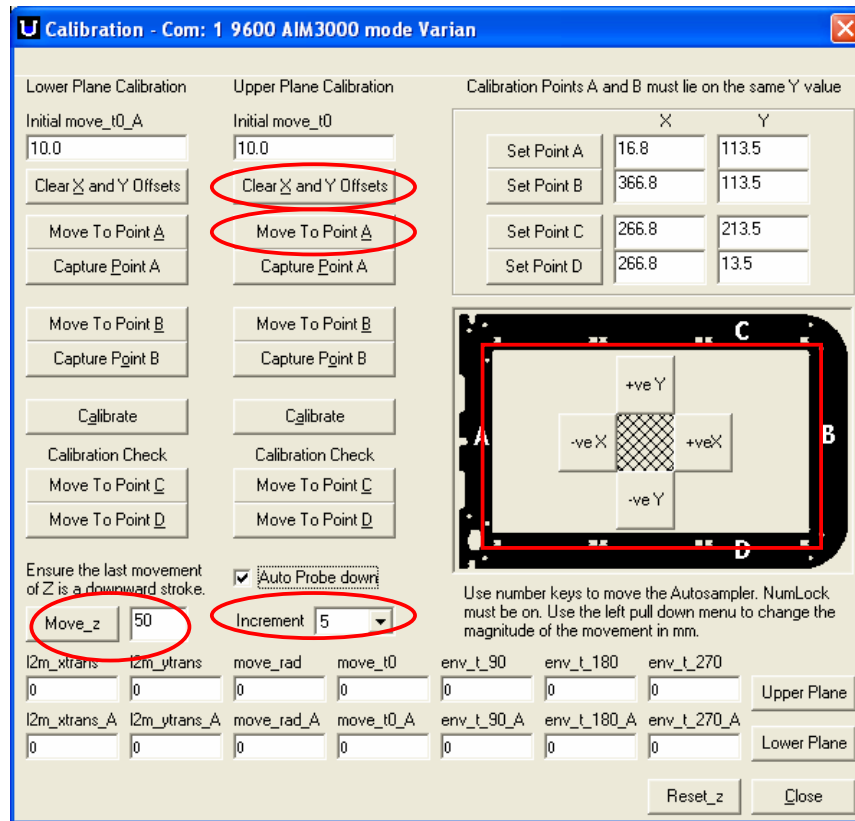
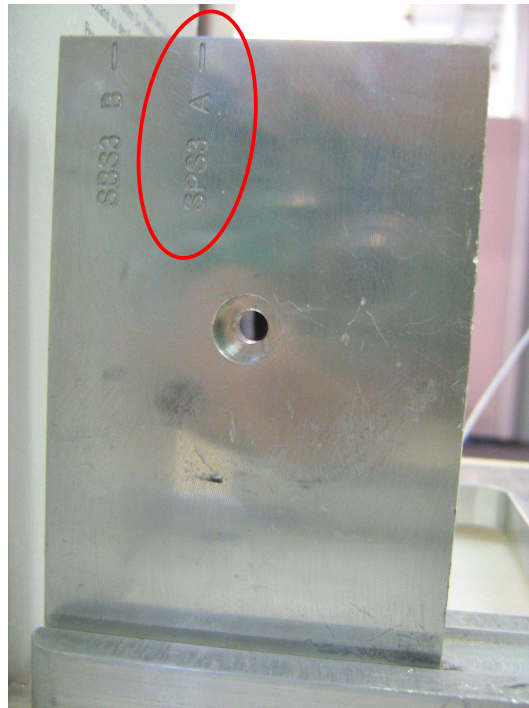

Figure 9: Clearing the Upper Level Calibration Coefficients
Figure 12: Point A on the Alignment tool
1. Clear the upper plane calibration X and Y offset (*Clear X and Y Offset*) Figure 9.
3. Select the *Move To Point A* button (Figure 9), and then using the X & Y movement buttons (Figure 9) align the probe so that it rests right above the point A dimple (Figure 12) in the tool. Do not forget to adjust the *Move_z* (Figure 9) depth adjustment to avoid running the probe into the alignment jig. Remember that fine adjustment of the probe can be made by changing the *Increment* pull down menu (Figure 9)